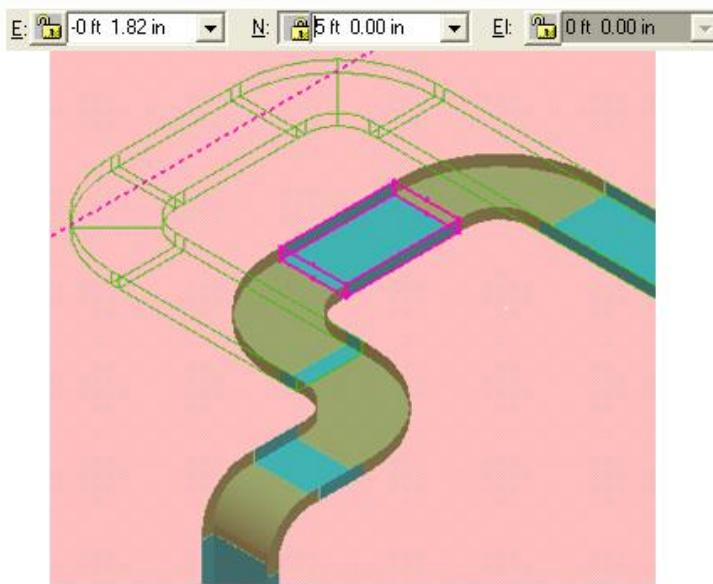

Figure 7: Cableway After Specifying the Coordinate Points
7. Key in **5 ft** on the **N** drop-down list of the **PinPoint** ribbon to specify the North coordinate point of the position where you need to move the cableway feature. After specifying the coordinate points, the view of the cableway should resemble Figure 7.